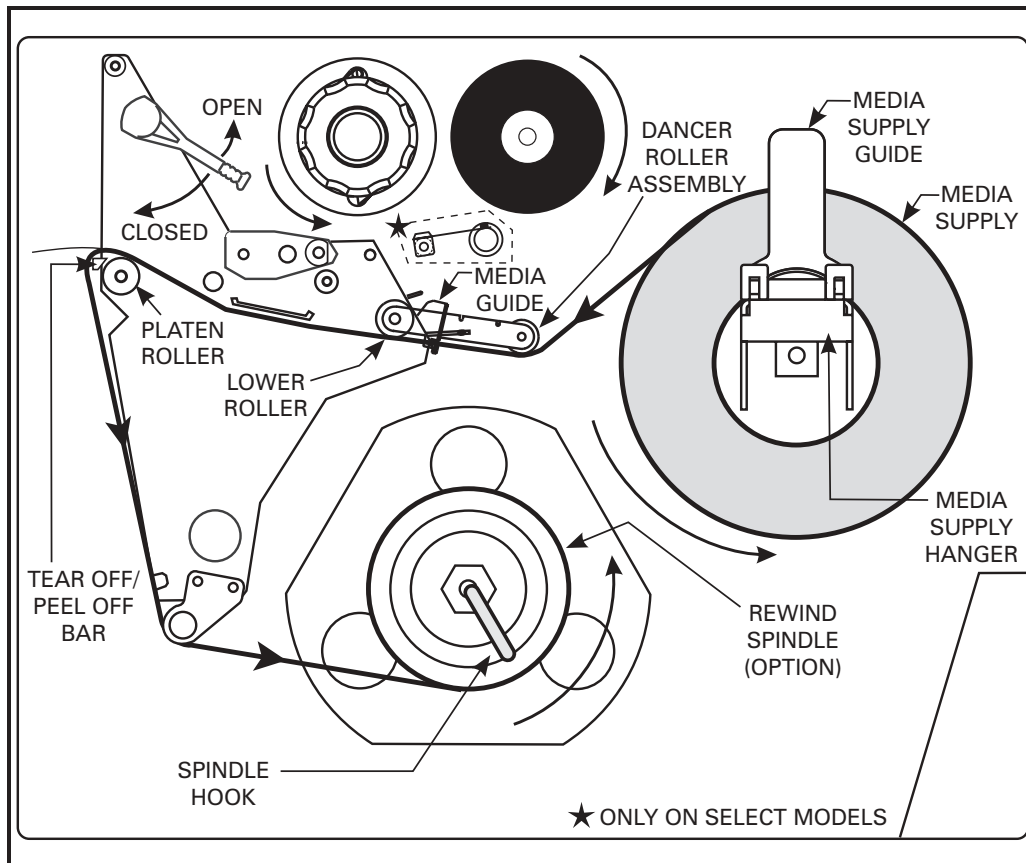

Figure 1. Media Loading
To load media, refer to Figures 1 through 3 and follow the loading procedure for your application. This section details the media loading instructions for the printer. For descriptions of the operating modes, refer to the Operation section.
Figure 1 illustrates the method of loading media. First, move the Printhead Open Lever counterclockwise to the open position and raise the printhead. Second, slide the Media Guide and the Media Supply Guide as far out from the printer frame as possible and flip down the Media Supply Guide.
7. Route the media as shown in Figures 1 and 2 and wind it once or twice around either (1) the Rewind Spindle and reinstall the Hook, or (2) a 3" core. (With some media, especially tag stock, you may need to tape the end of the media to the core if it will not otherwise tighten onto the core. DO NOT tape the label stock unless absolutely necessary.)